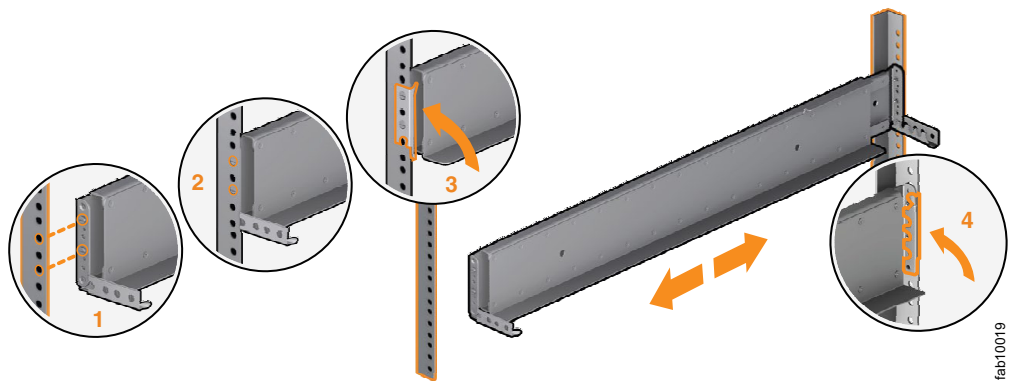

Figure 11. Closing the hinge brackets
8. Close the rear hinge bracket to secure the rail to the rack cabinet flange. (See Figure 11.)
10. Close the front hinge bracket to secure the rail to the rack cabinet flange. (See Figure 11.)